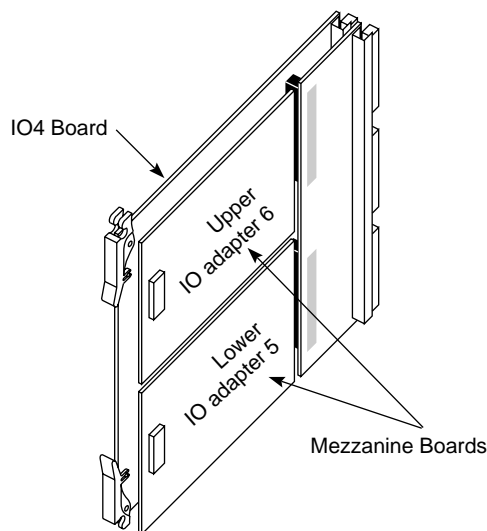

Figure 2-2 Upper and Lower Mezzanine Slots on IO4 Boards
- If the system has only one IO4 board, this is the location for the mezzanine board. The mezzanine board may be installed in either the upper or lower position on the IO4 board, as illustrated in Figure 2-2.